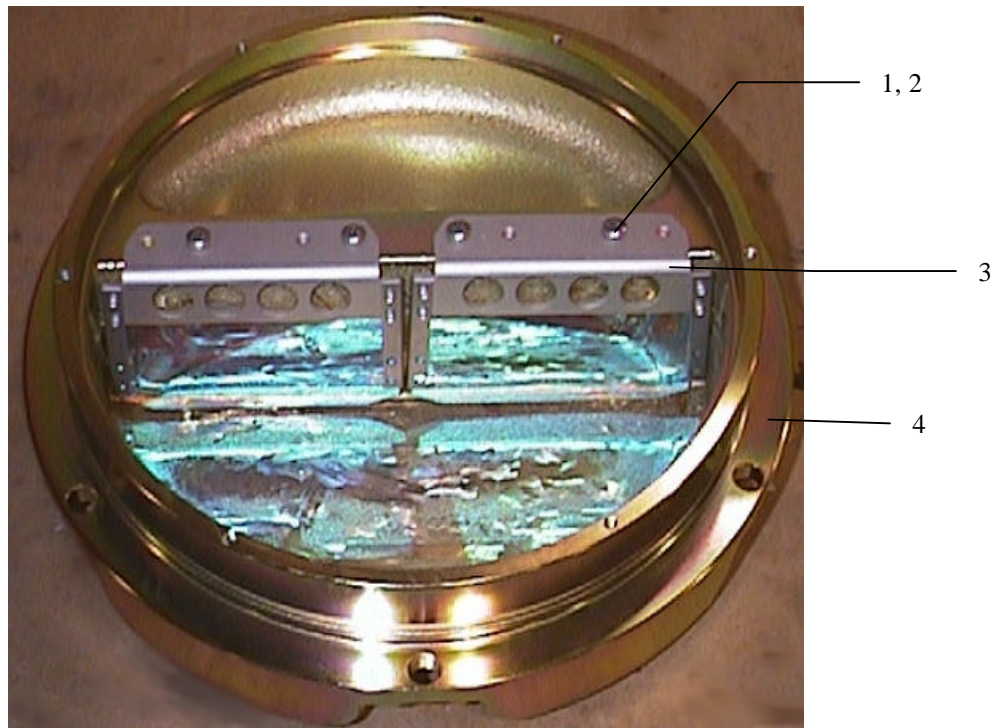

Figure 16. Filter Bracket Assembly
2. See Figure 16. Remove two screws (1) and washers (2) from the filter bracket assembly (3).
3. Pull the filter bracket assembly (3) from the cover.
3. See Figure 16. Secure the filter bracket assembly (3) to the inner cover (4) using screws (1) and washers (2). Apply no more than one drop of Grade AV Loctite to the screws.